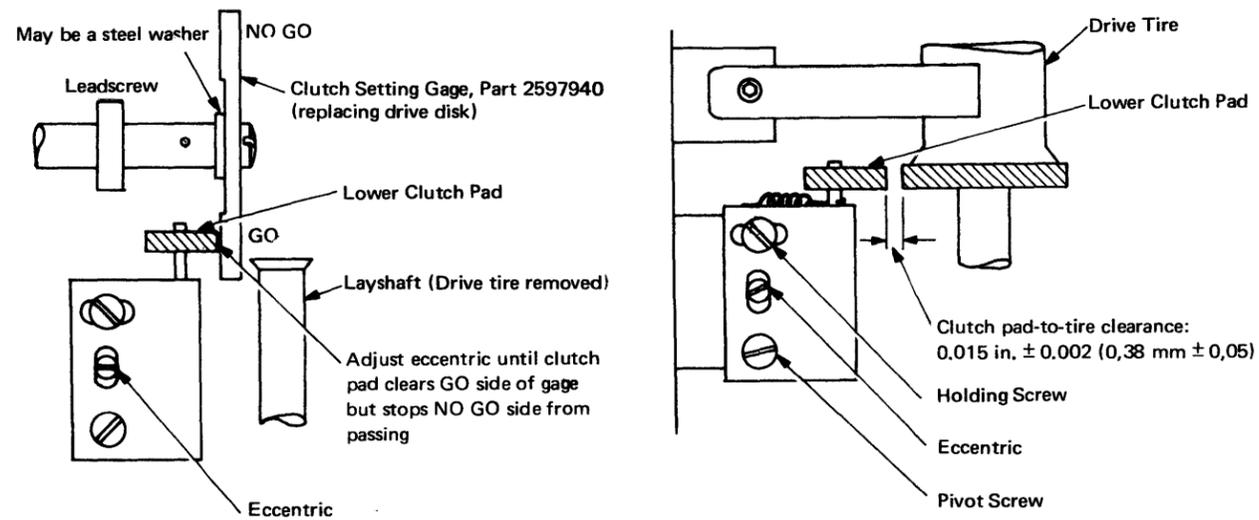

Figure 2-28. Lower Clutch Initial Setting [07551]
3. Remove drive tire and drive disk. Using drive disk screw, secure clutch setting gage, part 2597940, on end of leadscrew (Figure 2-28).
6. Adjust layshaft assembly for a 0.015 in.  $\pm$  0.002 (0,38 mm  $\pm$  0,05) between the lower driving surface of tire and the lower clutch pad (see Figure 2-28). Most layshaft assemblies have an adjusting screw, but the early version has no adjuster and must be lightly tapped forward with a screwdriver handle.
*Note:* On some early machines, a steel washer is fitted behind the drive disk (see Figure 2-28). On replacement of the disk, face the countersunk side of the washer towards the leadscrew.
4. Adjust clutch bracket eccentric (see Figure 2-28), with pivot screw and holding screw both loosened, until disk is deflected to touch the tire.
3. Remove clutch pivot and holding screws (see Figure 2-28), then withdraw clutch assembly, complete with eccentric.